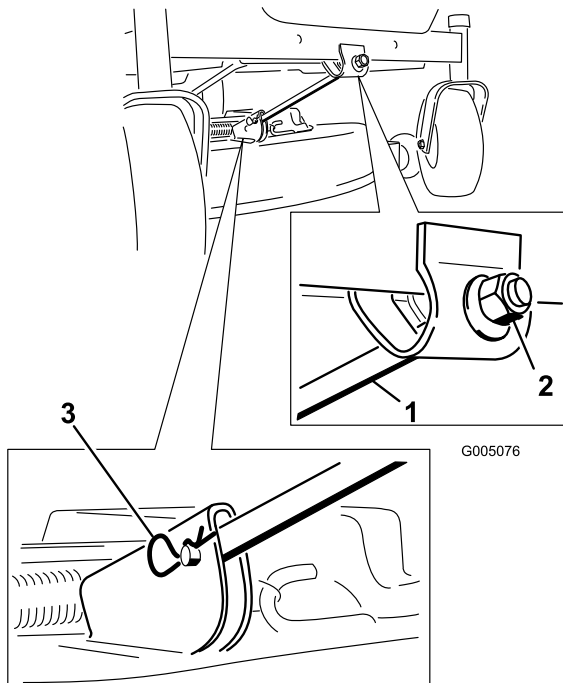

Figure 44
- Remove the hairpin cotter and clevis pin from the front support rod (Figure 44). Carefully lower the front of the mower deck to the ground.
- Attach the front support rod to the mower deck with the clevis pin and hairpin cotter (Figure 44).